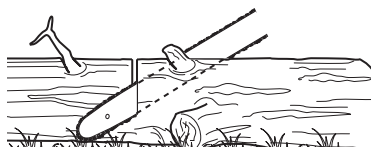

Fig. 31
- > Follow the simple directions for easy cutting. When the log is supported along its entire length (Fig. 31), it is cut from the top (overbuck).